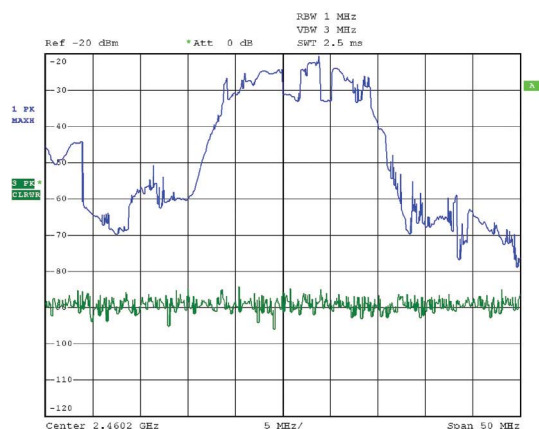
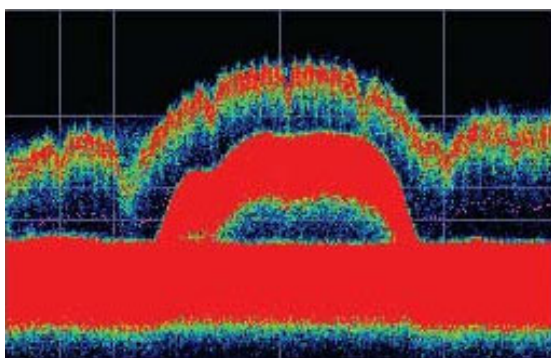

Figure 2
Figure 3
Compare the display of a traditional swept spectrum analyzer (Figure 2) and that of a real-time signal analyzer with a DPX display (Figure 3). The signal captured is a typical WLAN interchange between a nearby PC and a more-distant network access point (AP). The laptop signal is nearly 30 dB stronger than the AP's signal because it is closer to the measuring antenna.
The traditional swept spectrum analyzer display, Figure 2, uses line traces that can show only one level for each frequency point, representing the largest, the smallest or the average power. After many sweeps, the
The DPX display, Figure 3, reveals much more insight on the same signal. Since it is a bitmap image instead of a line trace, you can distinguish many different signals occurring within each update period and/or different version of the same signal varying over time. The heavy band running straight across the lower third of the graph is the noise background when neither the laptop nor the AP is transmitting. The red lump of energy in the middle is the ON shape of the AP signal. Finally, the more delicate spectrum above the others is the laptop transmissions. In the color scheme used for this demonstration (“Temperature”), the hot red color indicates a signal that is much more frequent than signals shown in cooler colors. The laptop signal, in yellow, green and blue, has higher amplitude but doesn't occur nearly as often as the AP transmissions because the laptop was downloading a file when this screen capture was taken.